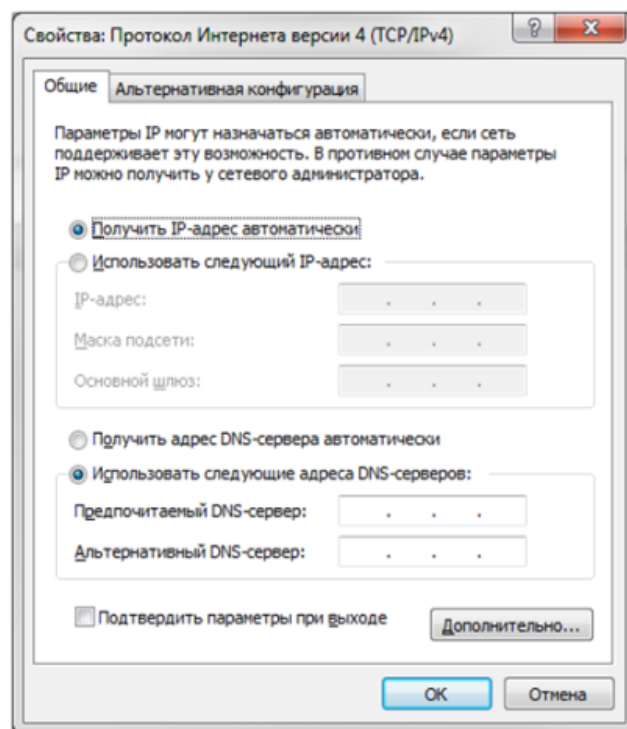

Figure 6.4 - IP-address automatic receiving setting
- 4) Disconnect SunSDR2 net. Enter PC WLAN card properties and tick off **«Get IP-address automatically»** (View Figure 6.4). Then connect again to SunSDR2 net.